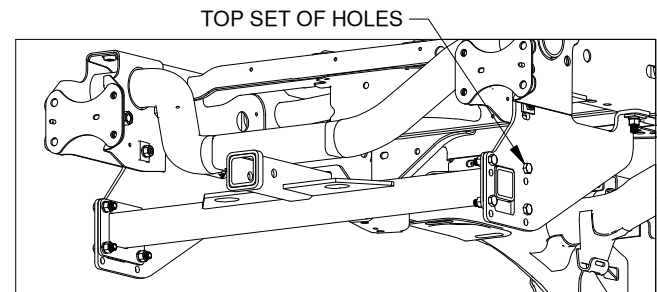

Figure A2: View of truck without factory receiver hitch. (Bumper not shown)
- For pickups without a factory receiver hitch or with the factory recover tube cut off of the round frame/ bumper support, the center section should be bolted to the side plates in the top set of holes and oriented so the receiver tube is on top of the cross tube, see Figure A2.